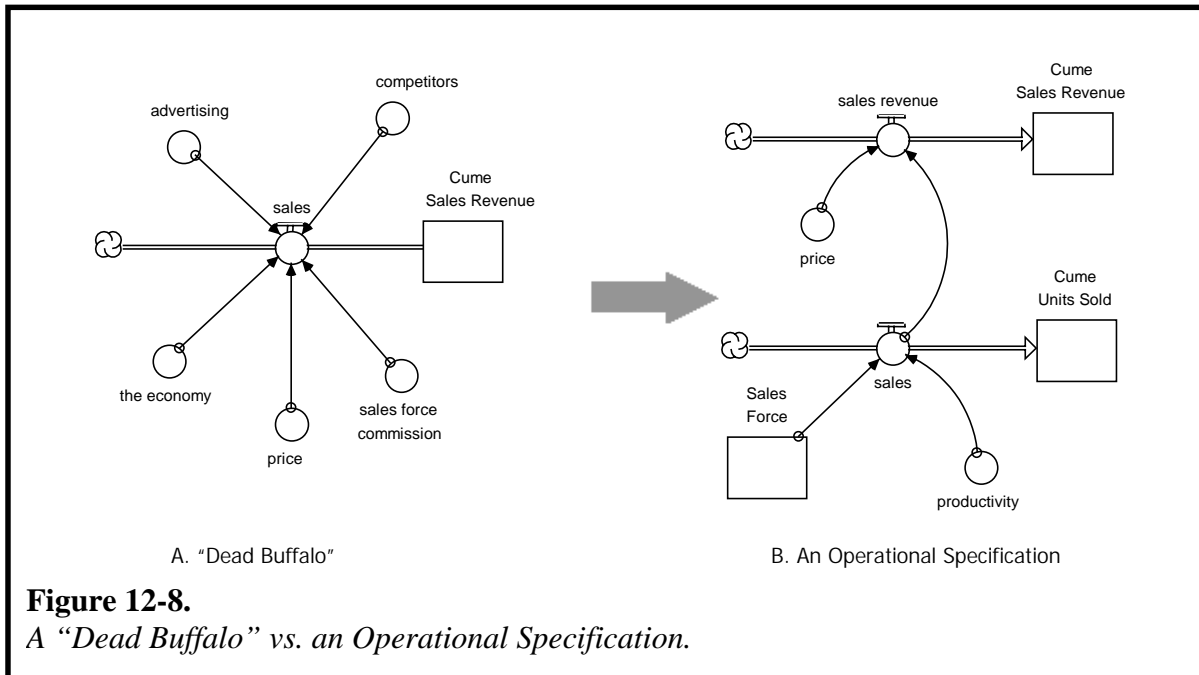

Figure 12-8.
- Avoid “dead buffalos” (a name derived from their appearance on the diagram; see Figure 12-8). Strings of factors that are “correlated,” or “influence,” are not the same thing as an operational statement of causality. Avoid “Critical Success Factors” Thinking.